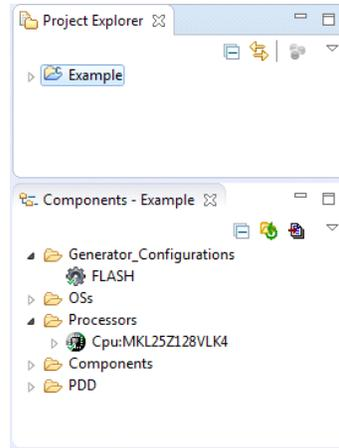

Figure 11. Project Explorer and Components panels with project created
- Figure 11 shows the **Projects Explorer** panel and the **Components** panel after the project has been successfully created. Before the project can be built and run, add the Gen4eXtremeSwitch component (imported in Section 4.2.2, Importing an example project, page 15) into the project. Section 4.3.1, Adding a Gen4eXtremeSwitch component into the project, page 17 outlines this procedure.